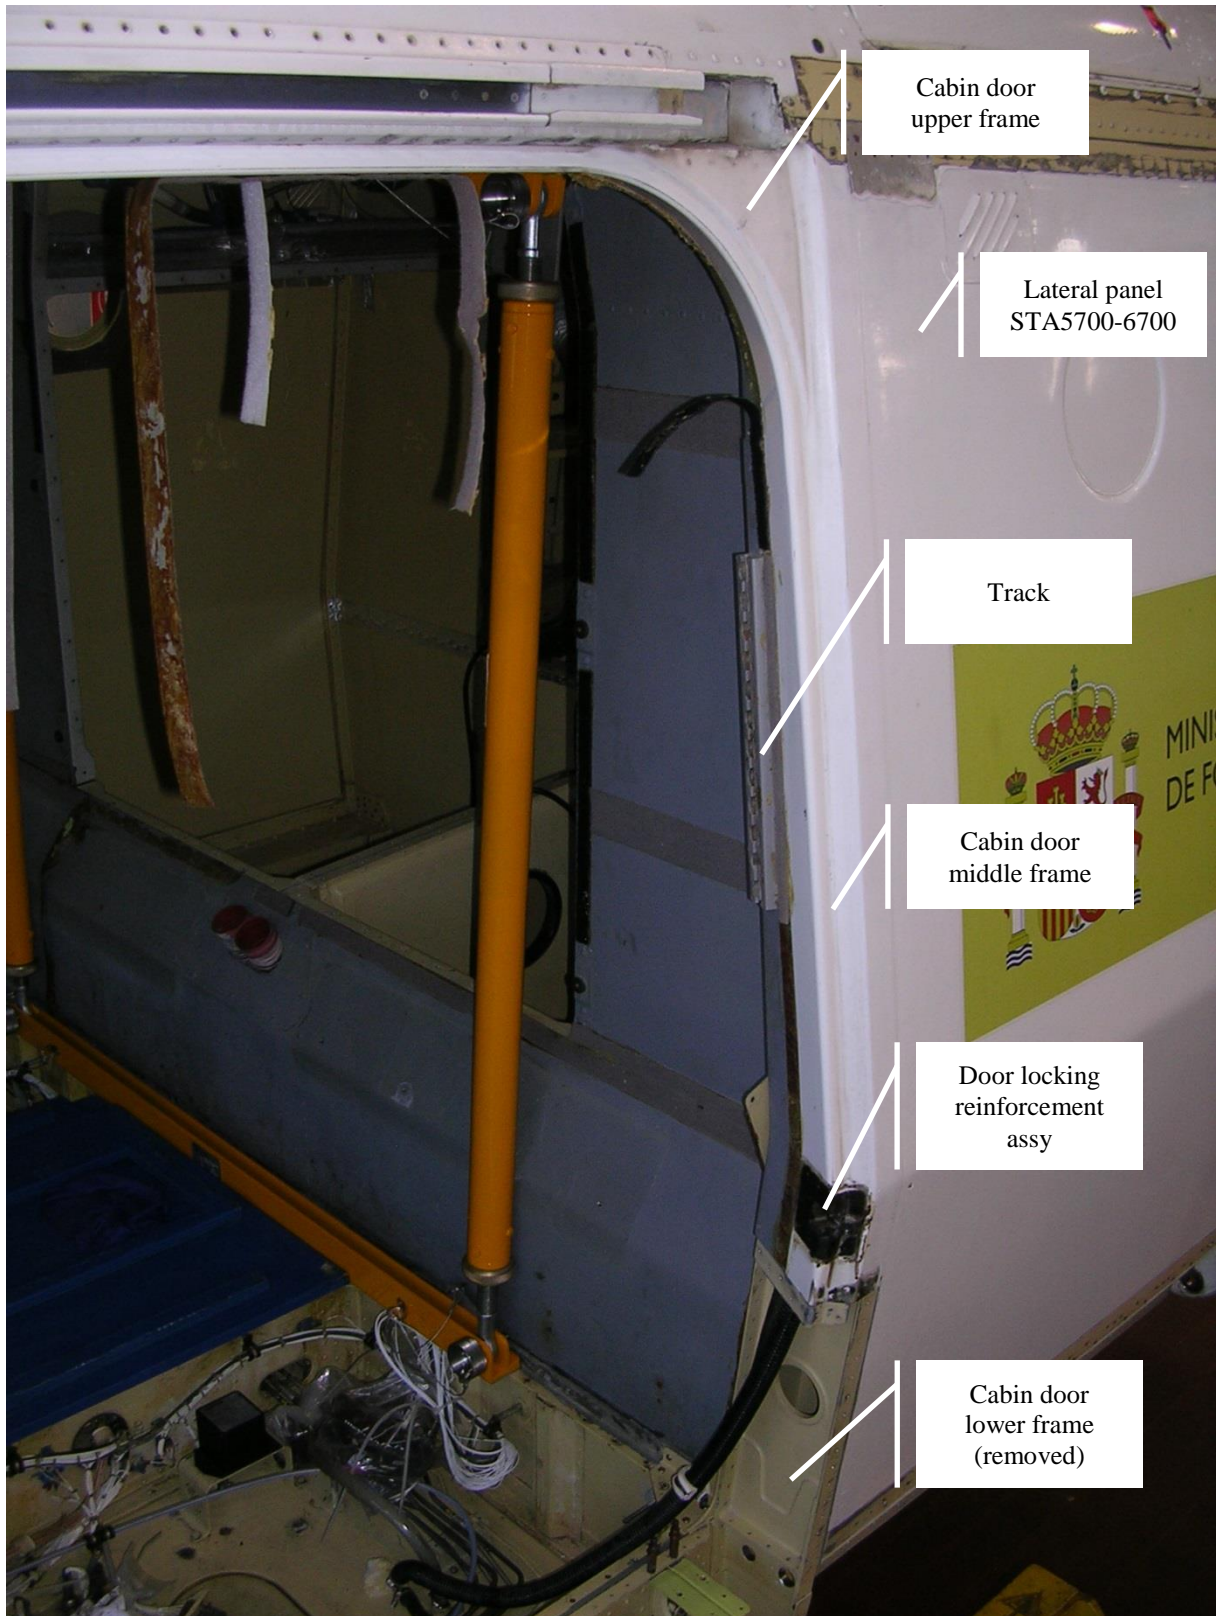

Figure 2
38. Remove the LH door locking reinforcement assy (Figure 2).